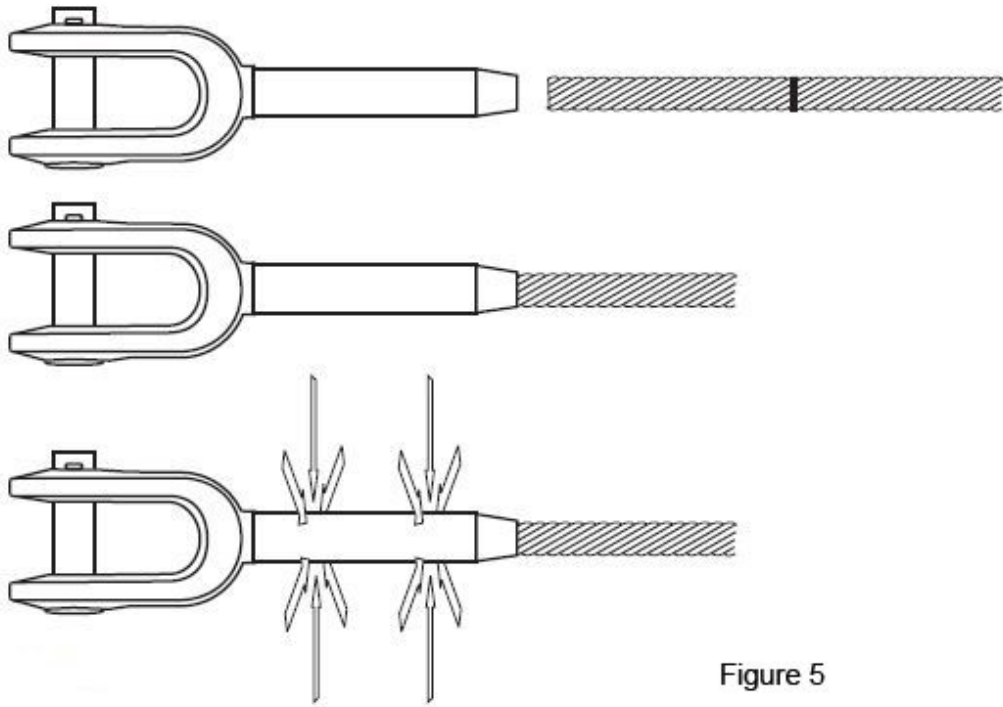

Figure 5
- Mark the rope to indicate the proper length of rope to be inserted into the socket (figure 5)
- Insert the rope into the socket and swage the socket with the specified dies (figure 5)